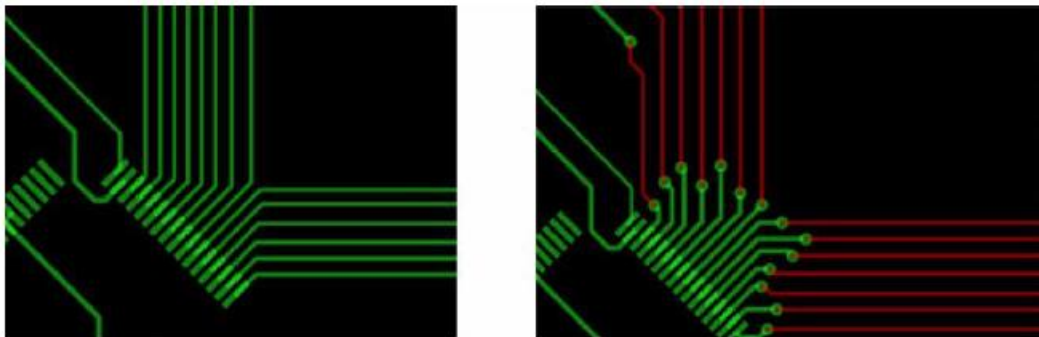

Figure 13. PCB trace routing
- Clearance — To ensure signal integrity, leave a minimum clearance of 10 mils for the lines that run parallel to each other in the same layer, and route perpendicularly the ones running in adjacent layers. Good design practice is to keep traces separated as much as the design allows. At the sensor's end, where typically the pitch is lower than 10 mils, a bottleneck mode connection is recommended as shown in Figure 13. The figure below is an example for maintaining adequate clearance in touch sensing traces.